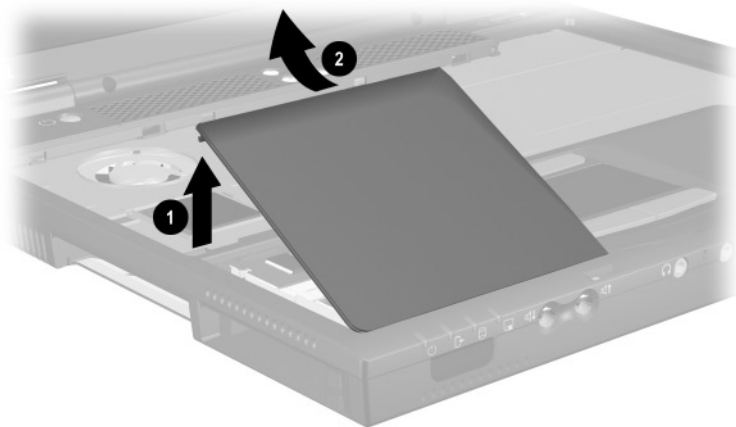

Figure 5-13. Removing the Memory Expansion Compartment Cover
3. Lift the left side of the memory expansion compartment cover ❶ and swing the cover forward ❷ (Figure 5-13).